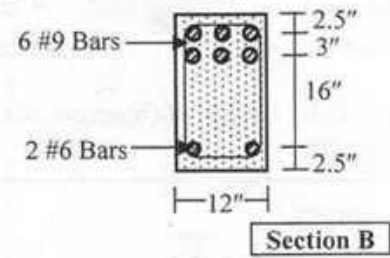

Fig. 3
i) calculate the total load ( $w_u$ ) for Section B (Fig. 3) to reach its ultimate moment capacity, and